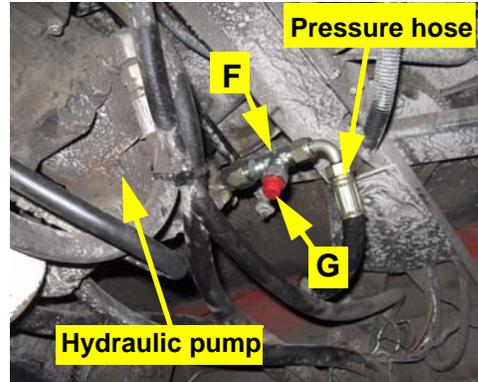

Figure 3b: Installed pressure fitting
b. Locate the pressure hose on the side of the hydraulic pump. Install the run-tee adapter fitting **F** between the rubber hose and the hydraulic pump (Figure 3b).
c. Install the reducer fitting **G** to the branch of the run-tee fitting **F** (Figure 3b).